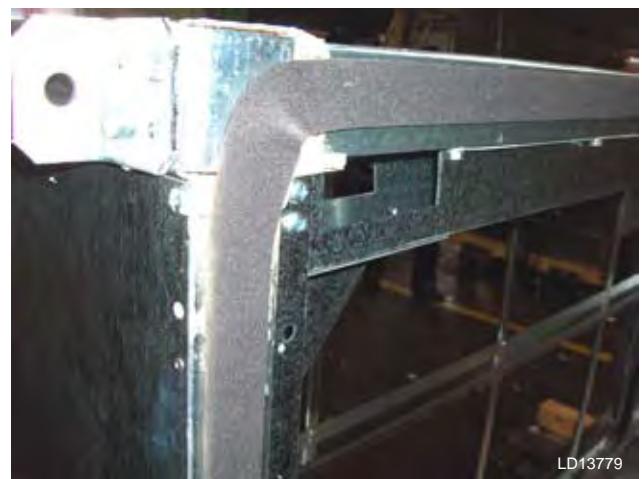

FIG. 2-21 – APPLYING GASKET TO SHIPPING SPLIT
- e) Apply 1/4" x 2" neoprene gasket material **TO ONE SIDE ONLY** of each shipping split. Be sure the entire perimeter is covered with gasket material, including the foamed corners. Any void, depression or protrusion will allow air or water leakage. Gasket must be continuous through the corners. Make any splices on a straight run. Refer to Fig. 2-21 & 2-22.